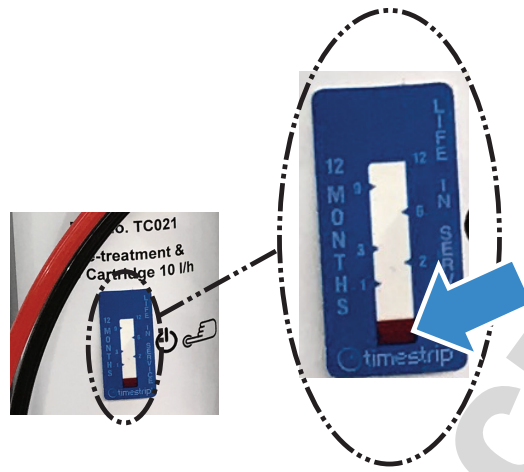

Figure 15. Red line shows RO module timer is activated.
20. When operation is complete, press firmly at the center of the timer label sticker until a thin red line appears. See Figure 15.